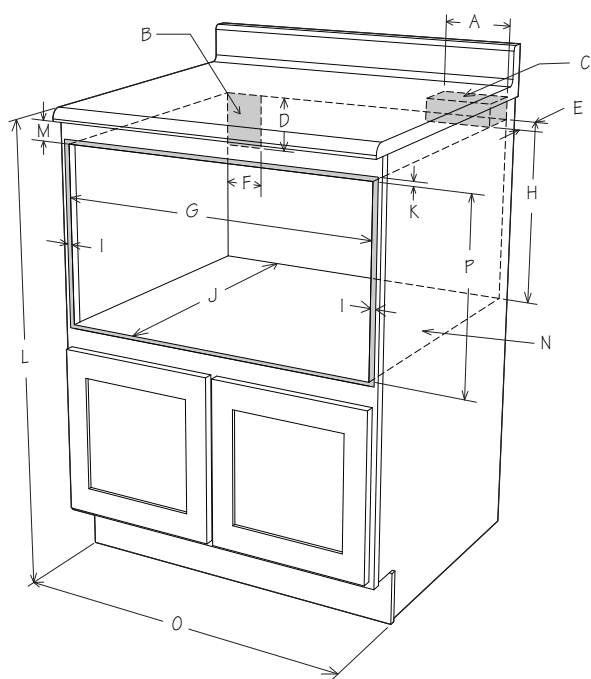

Figure 1
For SAFETY CONSIDERATIONS do not install drawer in any combustible cabinetry, which is not in accordance with the stated clearances and dimensions on pages 3 - 5. See Figures 1 - 7.
- Dimensions that are shown in Figure 1 must be used. Given dimensions provide minimum clearance. Locate electrical outlet in the shaded area in the upper left-hand corner of the cutout. See Figure 9.
Figures 1 and 2 contain measurements for reference when planning the drawer's location.
To reduce the risk of tipping of the drawer, the Anti-Tip block must be properly installed located 14 13/16-inches (376.2 mm) above the floor on which the Drawer Microwave will sit. The 6" (152.4 mm) Anti-Tip block must be provided by the installer. See Figure 1. The Anti-Tip block prevents serious injury that might result from spilled hot liquids.